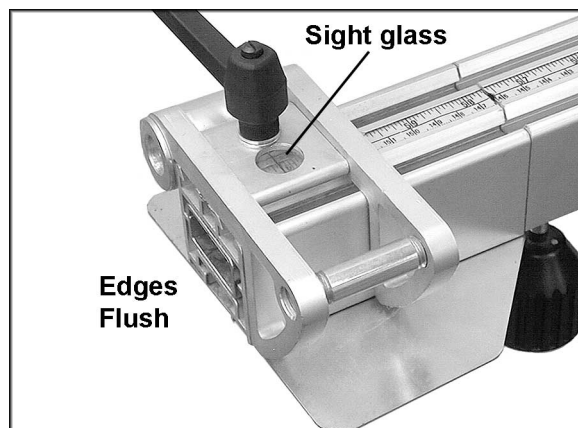

Figure 27
3. The scale on the telescopic extension of the fence should now be checked and adjusted. Move the other stop to the outermost edge of the extension fence until the edge of the stop is flush with the edge of the fence (Figure 27). Lock the stop in position by tightening the handle.